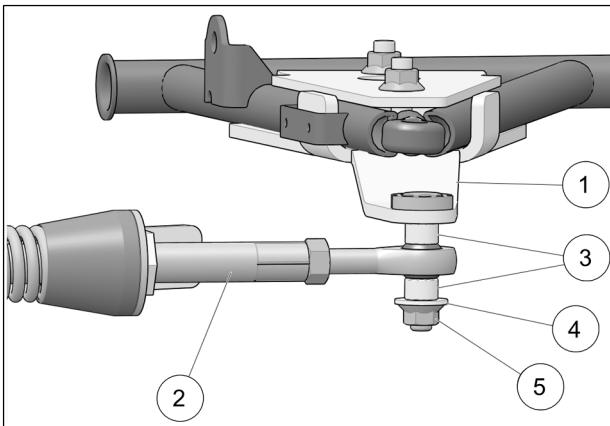

Fig. 24
- Attach the stabilizing rod (2) to the anchor bracket (1), using the two spacers (3), washer (4), and nut (5). Torque to 70 N•m [52 lb•ft]. Refer to Fig. 24